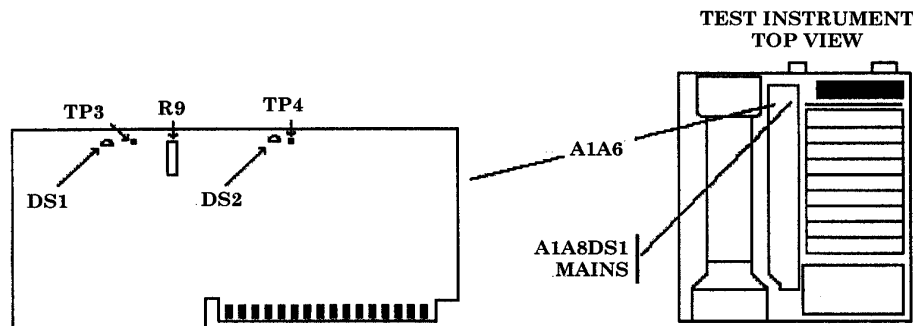
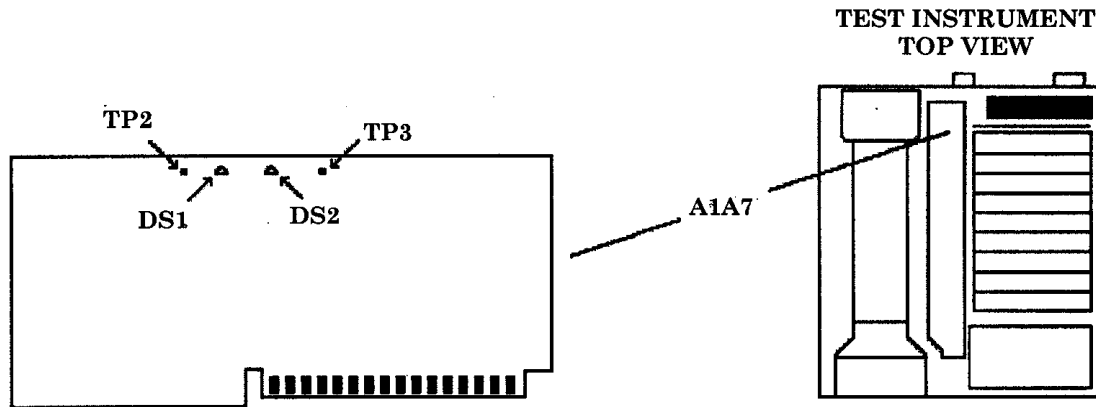
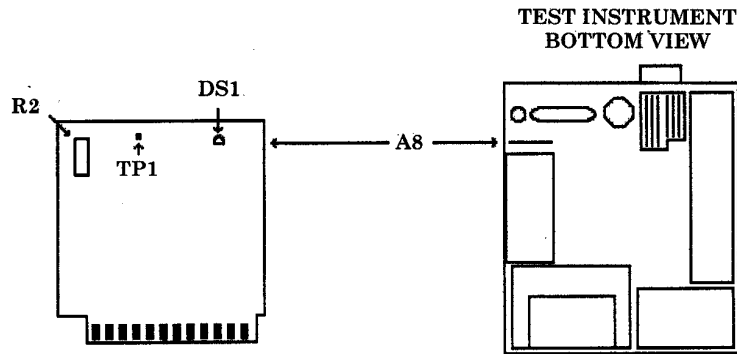

Figure 31. A1A6 Board
Figure 32. A1A7 Board
Figure 33. A8 Board
- (5) Connect multimeter **HI** to A1A6TP3 (fig. 31) and multimeter **LO** to TI chassis.
- (6) The +15 V indicator A1A6DS1 (fig. 31) (yellow LED) should be lit.
- (7) Adjust A1A6R9 (fig. 31) for a multimeter indication of  $15.000 \pm 0.010$  V dc (R).
- (8) Connect multimeter **HI** to A1A6TP4 (fig. 31) and multimeter **LO** to TI chassis.
- (9) The -15V indicator A1A6DS2 (fig. 31) (yellow LED) should be lit.
- (10) Multimeter should indicate  $-15.000 \pm 0.050$  V dc.
- (11) Connect multimeter **HI** to A1A7TP3 (fig. 32) and multimeter **LO** to TI chassis.
- (12) The 120 V indicator A1A7DS1 should be lit.
- (13) Multimeter should indicate  $120.0 \pm 2.0$  Vdc.
- (14) Connect multimeter **HI** to A1A7TP2 and multimeter **LO** to TI chassis.
- (15) The 5.2 V indicator A1A7DS1 (fig. 32) (yellow LED) should be lit.
- (16) Multimeter should indicate  $5.200 \pm 0.050$  V dc.
- (17) Disconnect multimeter from TI.
- (18) Position TI on its right side.
- (19) Remove TI bottom cover.
- (20) Connect multimeter **HI** to A8TP1 (fig. 33) and multimeter **LO** to TI chassis.
- (21) The 22 V indicator A8DS1 (fig. 33) (yellow LED) should be lit.
- (22) Adjust A8R2 (fig. 33) for a multimeter indication of  $22.000 \pm 0.020$  V dc (R).